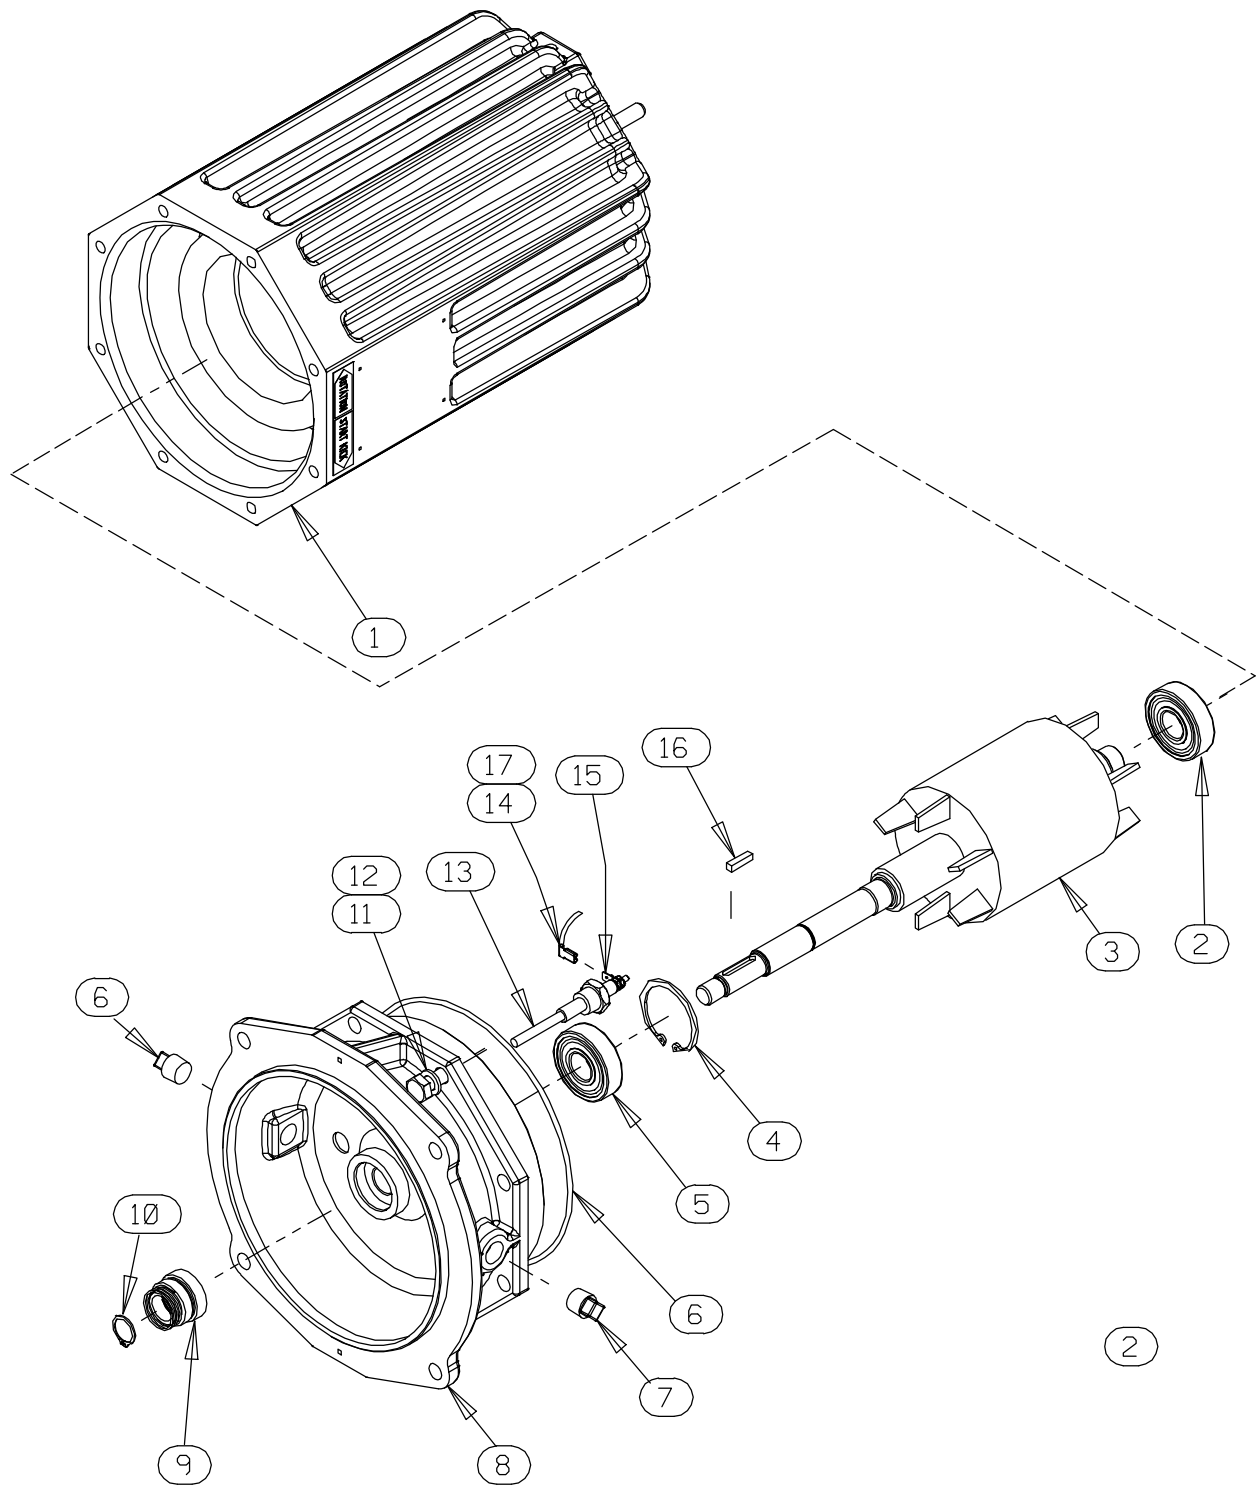

Figure E-2. 47111-802, -806, -807 and -853 Motor Assemblies
(Figure E-2)
To remove the impeller, use two thin-bladed screwdrivers positioned 180° apart to pry on the back of the impeller and “walk” the impeller off the shaft. Use increasingly larger screwdrivers (or wedges) as necessary. After the impeller comes free of the shaft, retain the impeller key (16, Figure E-2).
An alternate method of removing the stationary element is to remove the screws (16) securing the seal plate (14) to the motor assembly (7). Pry the assembled seal plate and stationary element off the shoulder of the intermediate (8, Figure E-2). Remove the O-ring (6) and press the stationary element and seat out of the seal plate from the back side.
(Figures E-2 and E-3)
With the pump inverted, stuff a clean tissue into the stationary seal seat bore of the intermediate (8, Figure E-2) or wrap a small rag around the shaft to prevent foreign material from entering the motor cavity.